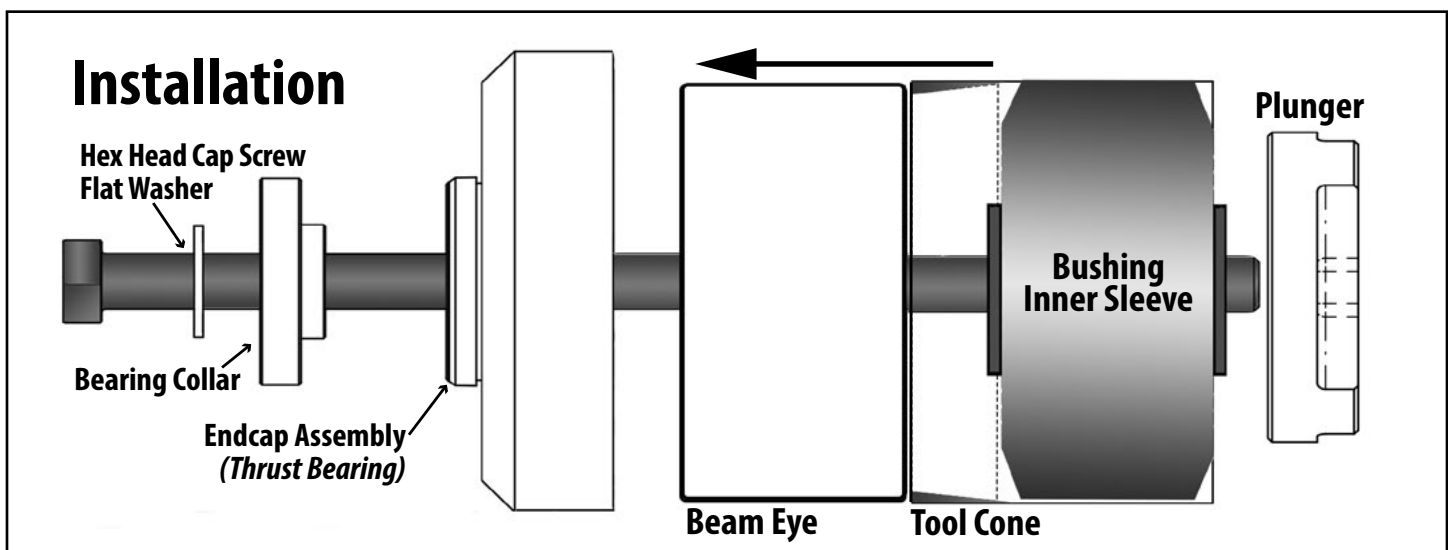

Figure 8.
2. Liberally apply P80® lubricant or a soap solution to the inside of the beam eye, the outside of the new bushing and inside the tool cone. Insert new bushing into the larger opening of the tool cone (Figure 8).